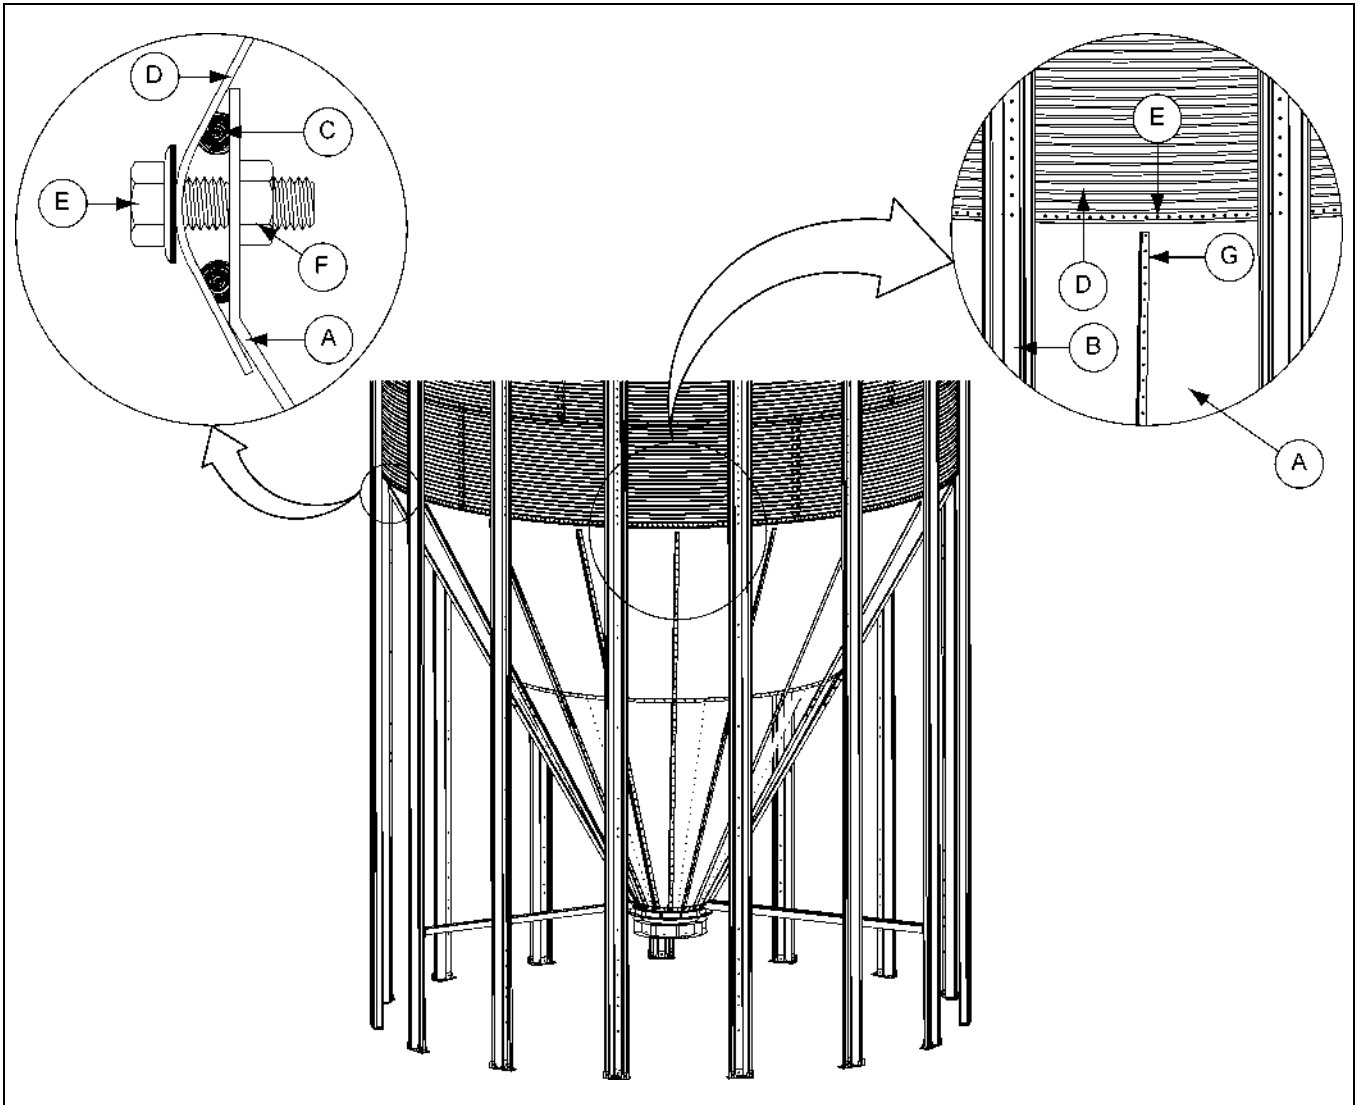

Figure 11C Upper Hopper Panel to Sidewall Connection
4. Repeat for all upper hopper panel to sidewall connections. (See Figure 11C.)